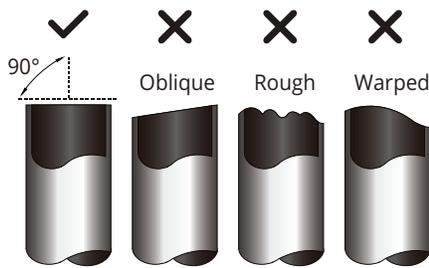

Fig 6.1
- Make sure that the pipe is cut at a perfect 90° angle. Refer to **Fig. 6.1** for bad cut examples.